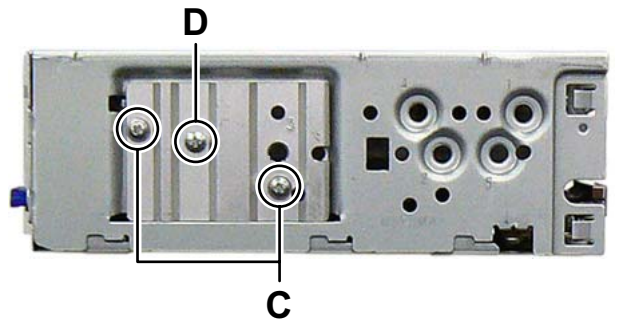

Fig.3-3
- (2) Remove the two screws **C** and the one screw **D** attaching the HEAT SINK. (See Fig.3-3)